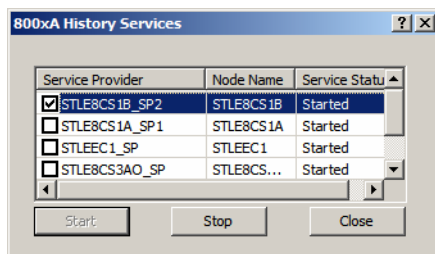

Figure 40. 800xA History Services
7. Check the appropriate Service Provider in 800xA History Service Manager as shown in Figure 40 and click **Stop**.